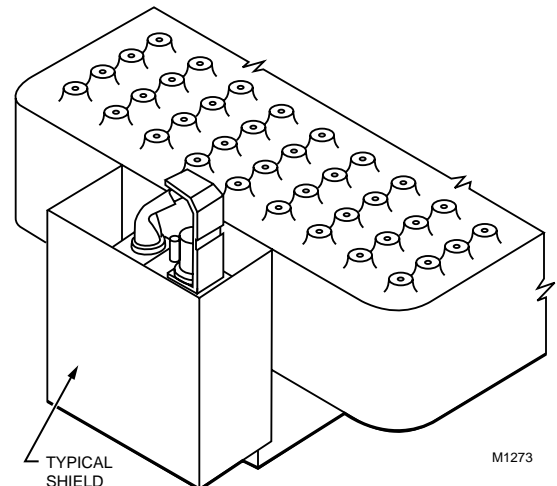

Fig. 19. Proper shielding of pilot flame.
- 3 If all Location instructions are followed, but the pilot continues to go out, construct a shield to protect the pilot flame from the main burner ignition, extinction and drafts. See Fig. 19.